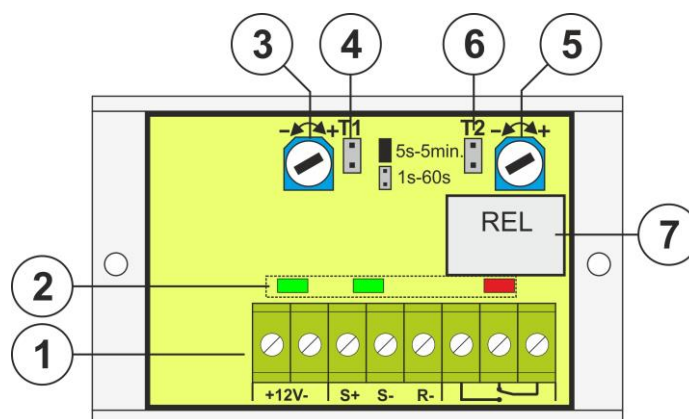

Fig.1. The view of the module.
No. [Fig.1]	Description
①	<p>Connector: +12V- - The module's power supply, DC voltage S+ - control input supplied by the positive power supply S- - control input activated by the negative power supply (power supply minus) R- - Reset input activated by the ground (power supply minus)</p>  <p>- REL - relay connector</p> <p>CAUTION! In Fig.1 the set of contacts shows a potential-free status of the relay.</p>
②	<p>LED (green): – optical indication green – supply voltage green – trigger signal indication (S + or S-) red – REL relay activation indication – (the LED is on when the relay is activated)</p>
③	<p>Potentiometer for T1 trigger time adjustment</p>
④	<p>Time range jumper T1:  1 s – 60 s time range  5 s – 5 min time range Description:  jumper on,  jumper on</p>
⑤	<p>Potentiometer for T2 relay activation time adjustment</p>
⑥	<p>Time range jumper T2:  1 s – 60 s time range  5 s – 5 min time range Description:  jumper on,  jumper on</p>
⑦	<p>Relay</p>